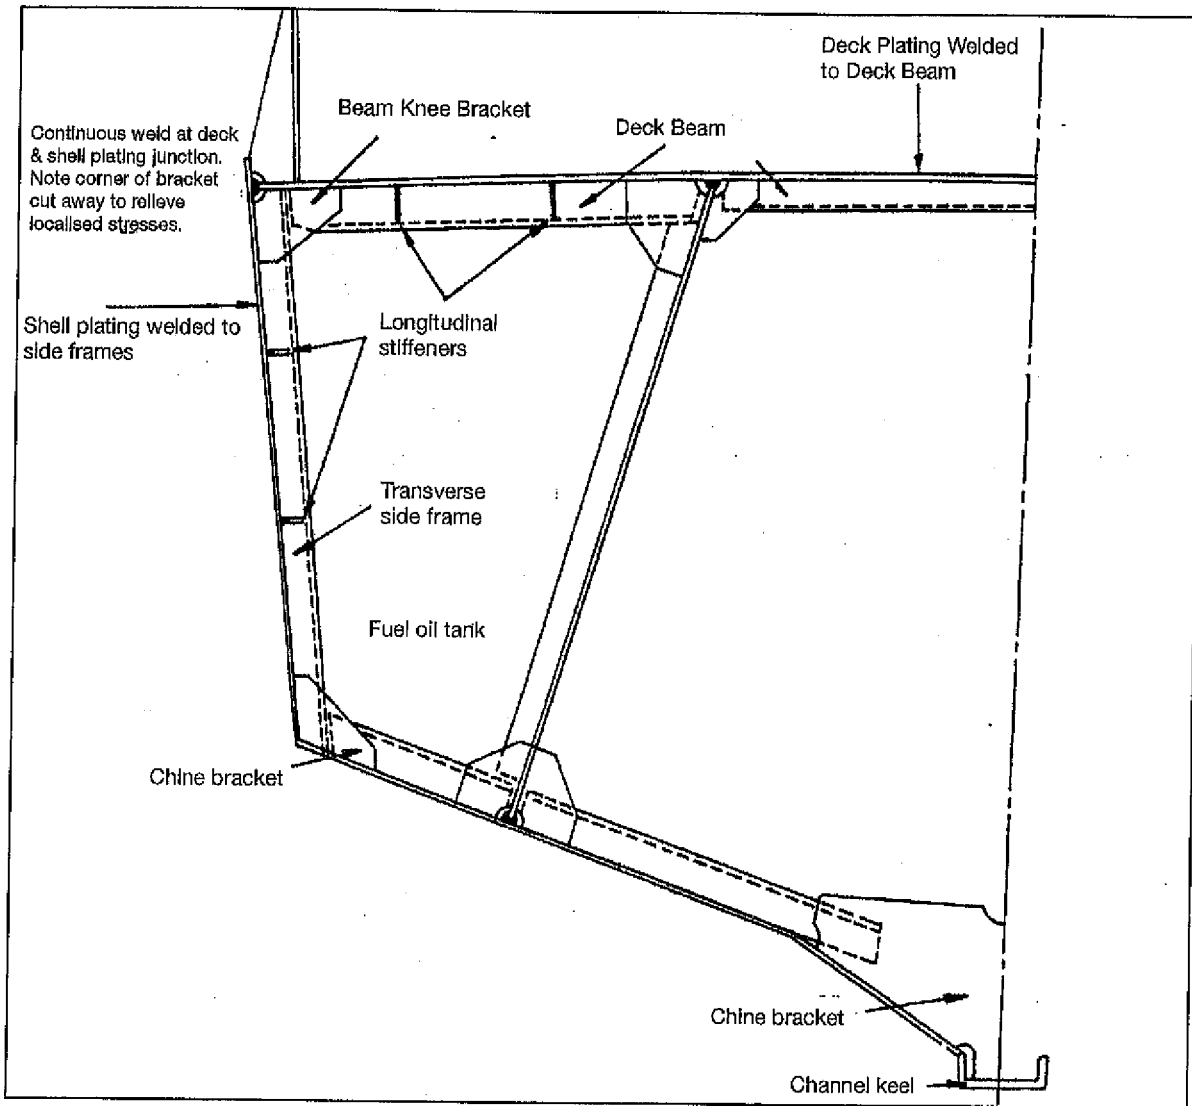
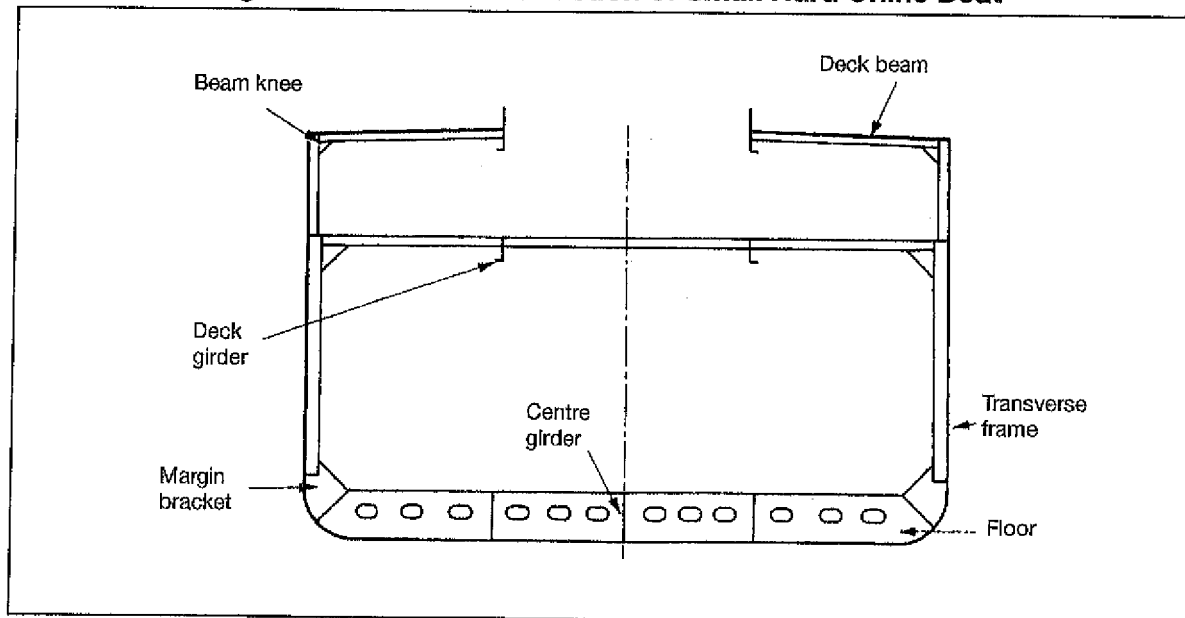

Fig 2.1 Steel Hull Construction of Small Hard Chine Boat
Fig 2.2 Steel Hull Construction of larger steel vessel
- Figure 2.1 shows a typical arrangement for a smaller, hard chine, steel boat while Figure 2.2 shows the arrangement for a larger vessel with a working or shelter deck. Note, in the smaller vessel, fuel tanks are built-in at the sides of the vessel, as part of the structure, while in the larger vessel fuel will be carried in double bottom tanks. Should the larger vessel run aground and open the bottom the vessel should still float on the inner floor.
By comparing the drawings of the different construction methods, it will be seen, the parts are named in a similar way. With reference to Figures 2.1 and 2.2 the main parts of the steel vessel construction are:
Keel	The centre of the bottom of the vessel. Shown as a channel iron in figure 2.1 and as a plate below the centre girder in figure 2.2.